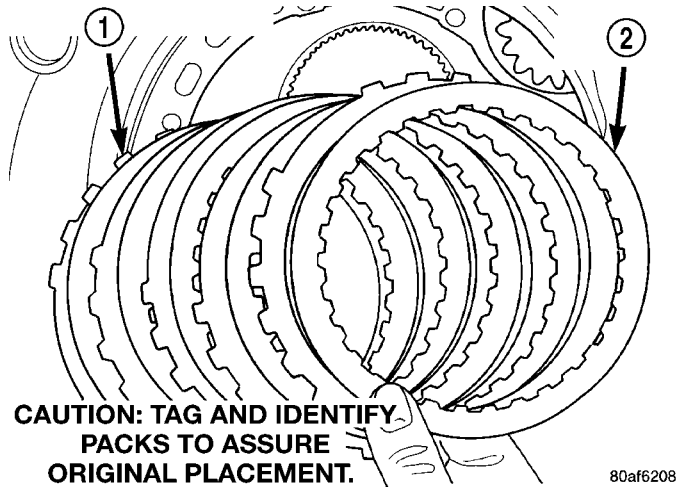

Fig. 123 Install Low/Reverse Clutch Pack
(38) Install low/reverse clutch pack (Fig. 123). Leave uppermost disc out until snap ring is installed.